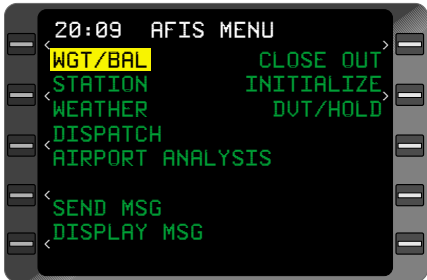

Figure 8-13
20. **ENTER** Key - DEPRESS for data link transmission. The flight is now initialized and the **AFIS MENU** page is displayed. See Figure 8-13.
1. **AFIS** Key - DEPRESS, if necessary, to display the **AFIS MENU** Page. See Figure 8-13.